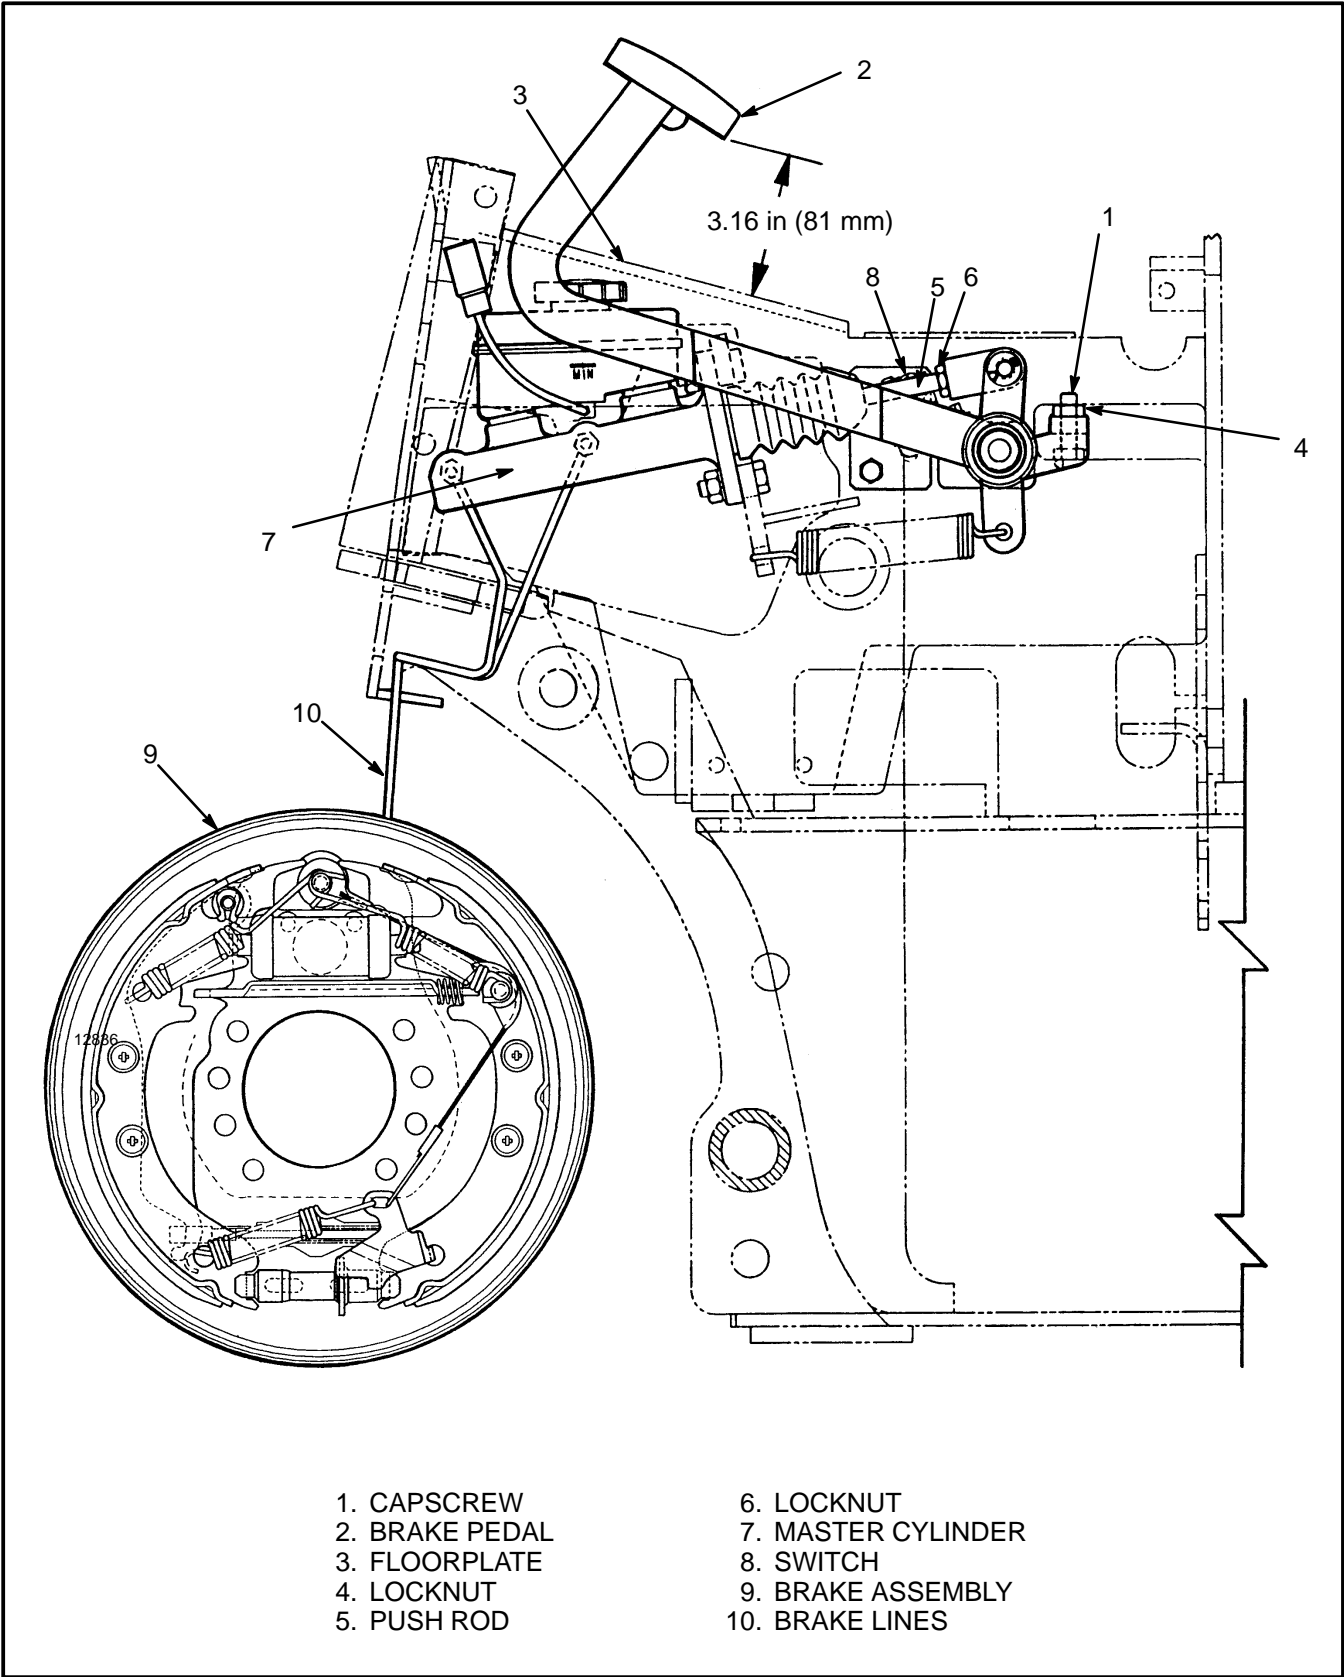

FIGURE 9. SERVICE BRAKE
Removal And Disassembly (See FIGURE 9.)
If the lever assembly for the parking brake must be removed from the frame, use the following procedure (See FIGURE 9.):
Assembly And Installation (See FIGURE 9.)
1. Make sure the parking brake lever is in the released position. Turn the adjustment knob (5) until the link (17) is adjusted to the bottom of the adjustment slot (18).
2. Install the ends of the cables into the compensator (15). Install the anchor pin (13), washer, and cotter pin into the parking brake assembly. Make sure the anchor pin is through the link and compensator.
3. Install the mounting bolts (9) through the cable clamps (11) and spacers (12). Mount the assembly to the bracket (16).
4. Before tightening the the mounting capscrews (9), push down the parking brake assembly to make sure it is in contact with the frame bracket (19).
5. The following procedure must be used to connect the link (4) to the parking brake assembly (3) and the brake pedal assembly (6): put the parking brake lever (3) in the applied position. Install the anchor pin (8) in the hole in the link (4) that will adjust the bottom side of the parking brake pedal to 28 mm (1.1 in) above the frame. See FIGURE 9. Install the cotter pins. Install the return spring (25) in an empty hole in the link (4).
6. With the brake in the applied position, adjust and tighten the nuts (14) on the end of the cable (20) to